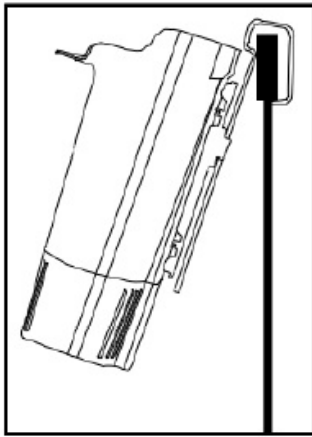

Fig. 2
2. Clip the filter to the back wall of your aquarium frame (Fig. 2). If the hanger doesn't fit, you may need to order separate suction cups (see spare parts list on back panel to order).